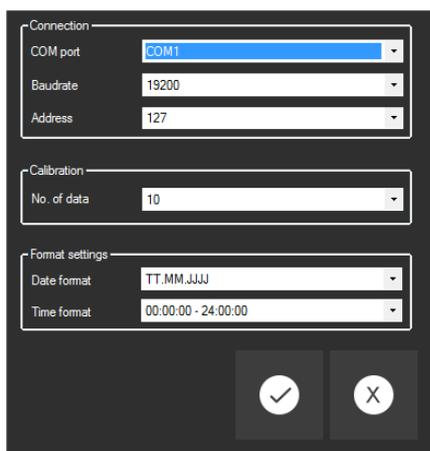

Fig. 36 Settings
- 2) Select correct COM-Port in the menu (see Fig. 36)